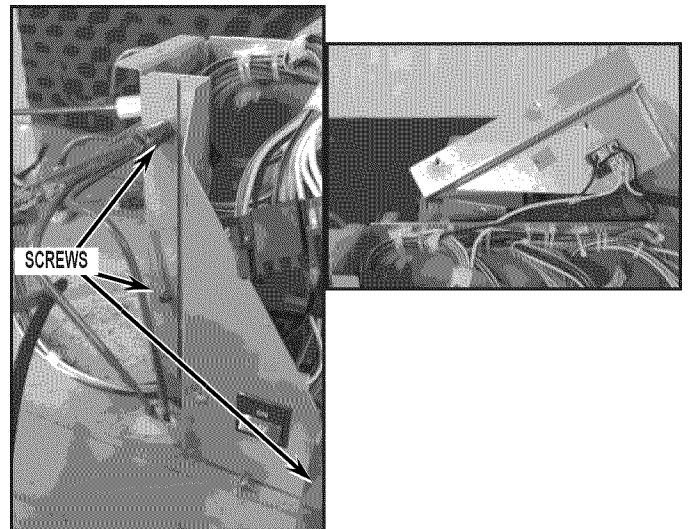

FIGURE 16
- Remove 3 switch plate mounting screws. Move switch plate to give space for making wiring connections and removing old HV board. See *Figure 16*.